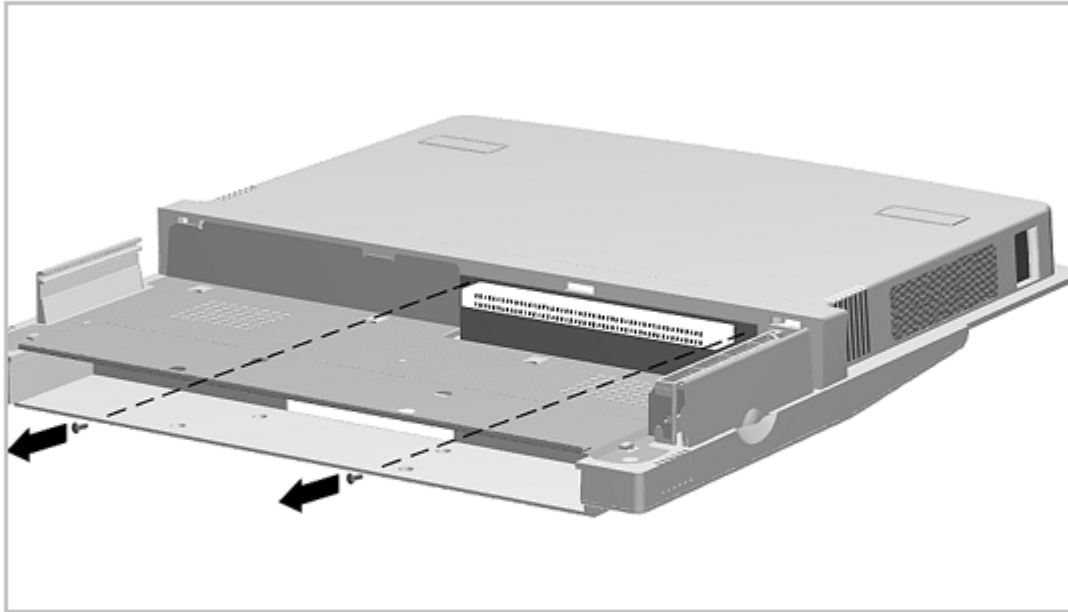

Figure 7-13. Removing the ISA Connector Board
6. To remove the ISA connector board, remove the two screws, and remove the board (Figure 7-13).